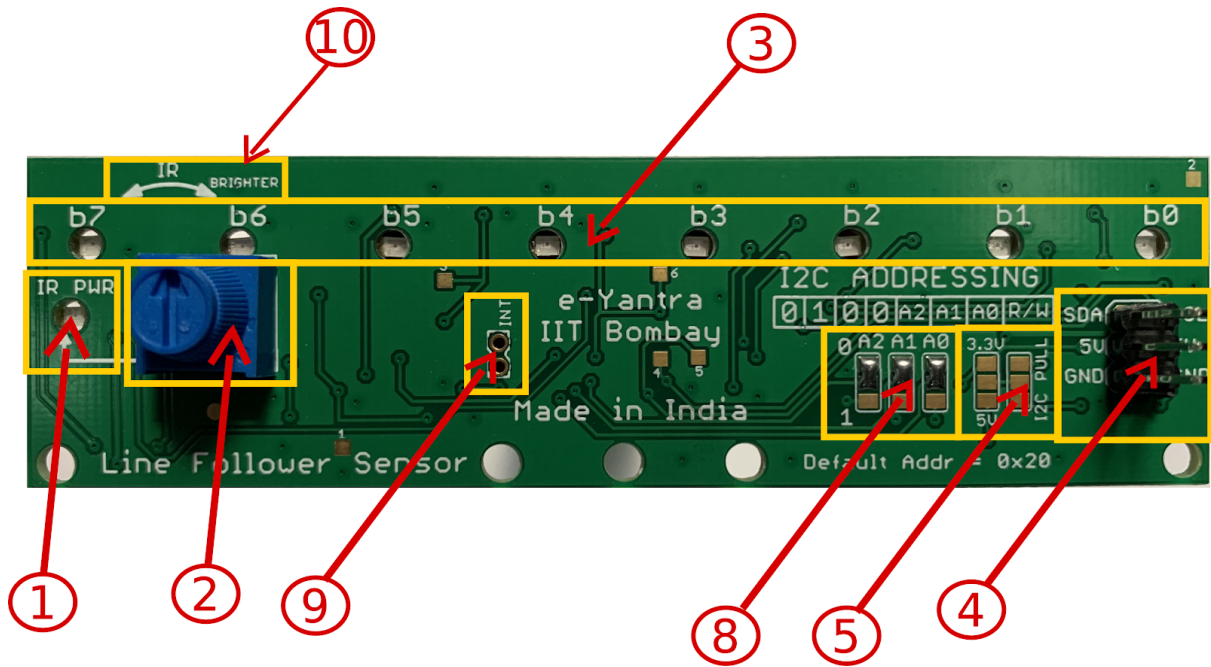

Fig.1: Top Side
2. **IR brightness control** : The potentiometer is used to change the brightness of IR LEDs, Knob direction is given on PCB(refer Fig.1 “10”) for IR brightness control.
The knob (refer Fig.1 “2”) on the sensor array is used to set the brightness of the sensor eye (IR LEDs). Because human naked eyes can't see IR, the "IR PWR" LED is provided to give feedback for how bright LEDs are operating, and to indicate that the regulator is functioning.